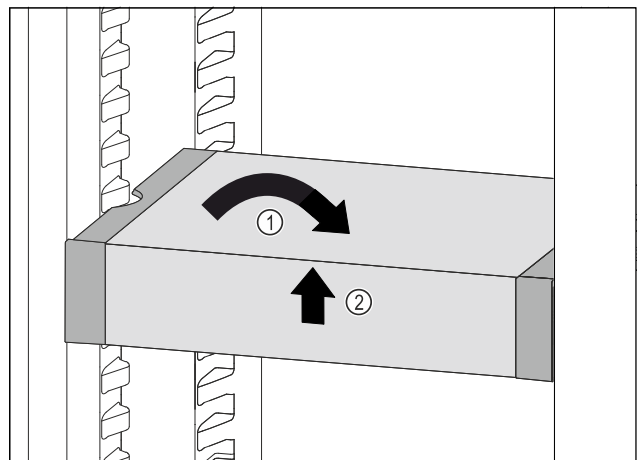

Fig. 128
- ▶ Set VarioSafe straight. Fig. 128 (1)
- ▶ Lift VarioSafe at the front. Fig. 128 (2)